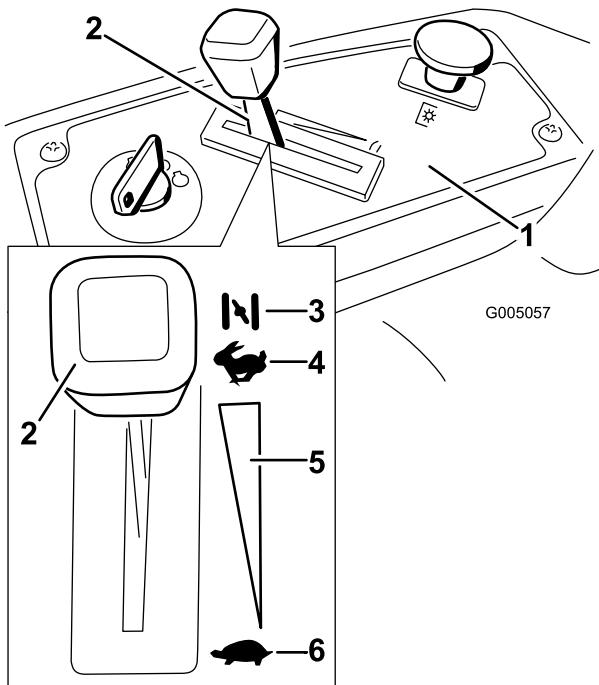

Figure 11
- Move the throttle lever to Choke before starting a cold engine (Figure 11).
- After the engine starts, move the throttle lever to Fast (Figure 11). If the engine stalls or hesitates, move the throttle lever back to Choke for a few seconds. Repeat this as required.
3. Turn the ignition key to Off (Figure 11) and remove the key.